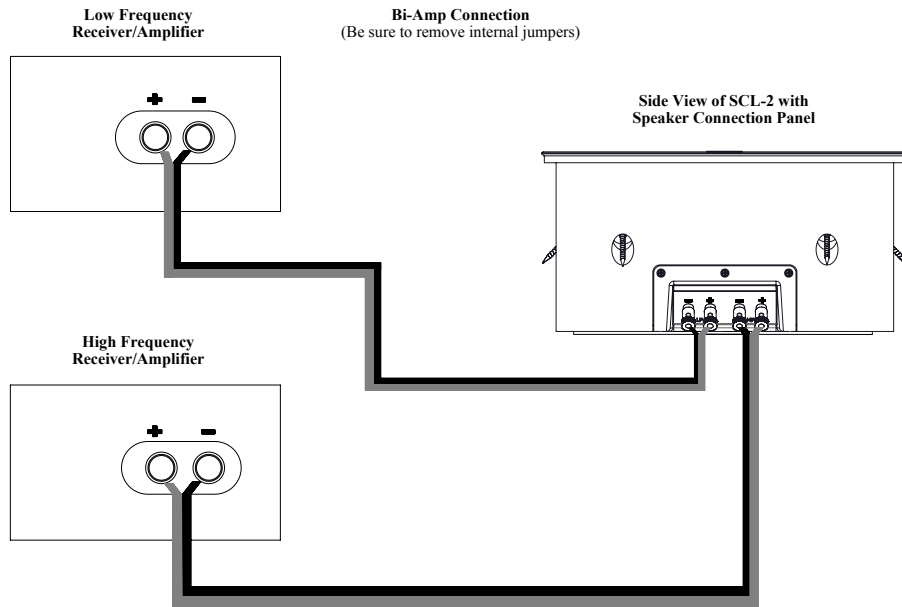

Figure 10
3. Connect "HF" labeled pair to the speaker's "HF" input, and the "LF" labeled pair to the "LF" input. (Figure 10)